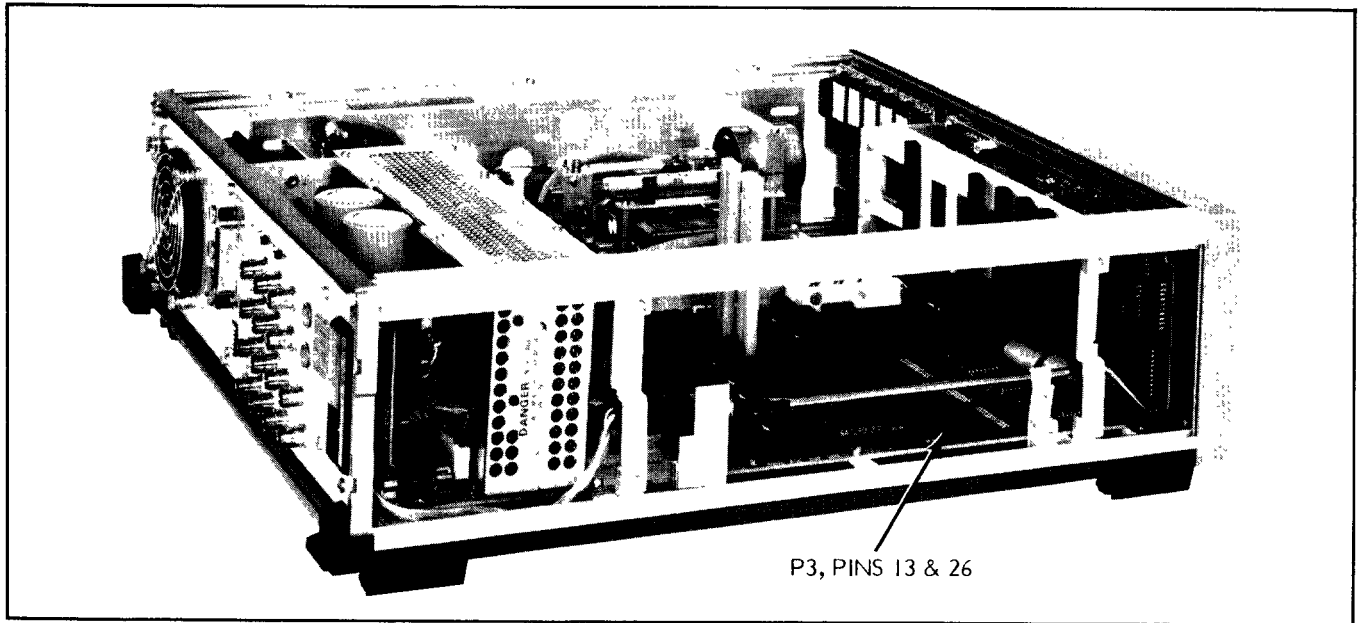

Figure 5-3. Connector P3, Pins 13 and 26
4. Clip a 1/2W fixed resistor, 50 to 100 $\Omega$ , between pins 13 and 26 on connector P3 (Figure 5-3), or between the +5V and GND test points.